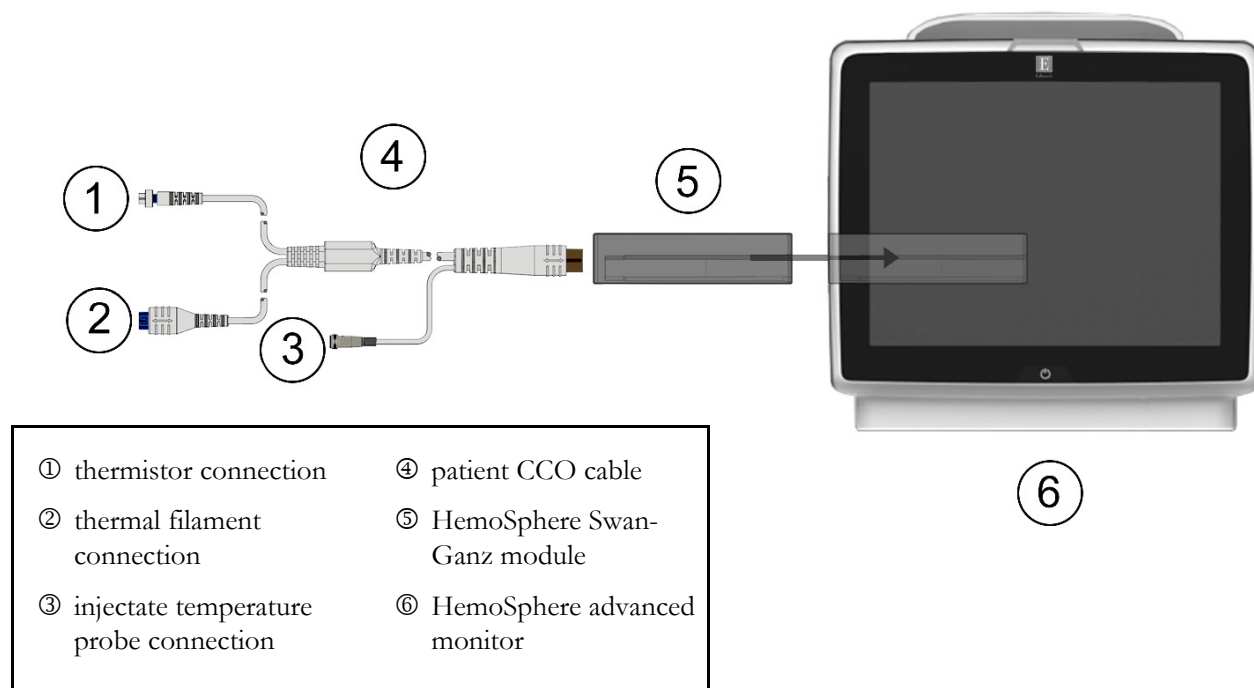

Figure 4-1 HemoSphere Swan-Ganz module monitoring connection overview
Refer to figure 4-1 for HemoSphere Swan-Ganz module monitoring connections.
- 11 Attach the thermistor ① and thermal filament ② Swan-Ganz CCO catheter connections (figure 4-1) to the patient CCO cable.
- 11 Attach the Swan-Ganz catheter thermistor connection (①, figure 4-1) to the patient CCO cable.
- 12 Connect the injectate temperature probe to the injectate temperature probe connector ③ on the patient CCO cable. The injectate system type (in-line or bath) is automatically detected.
- 11 Attach the thermistor ① and thermal filament ② Swan-Ganz volumetric catheter connections (figure 4-1) to the patient CCO cable.